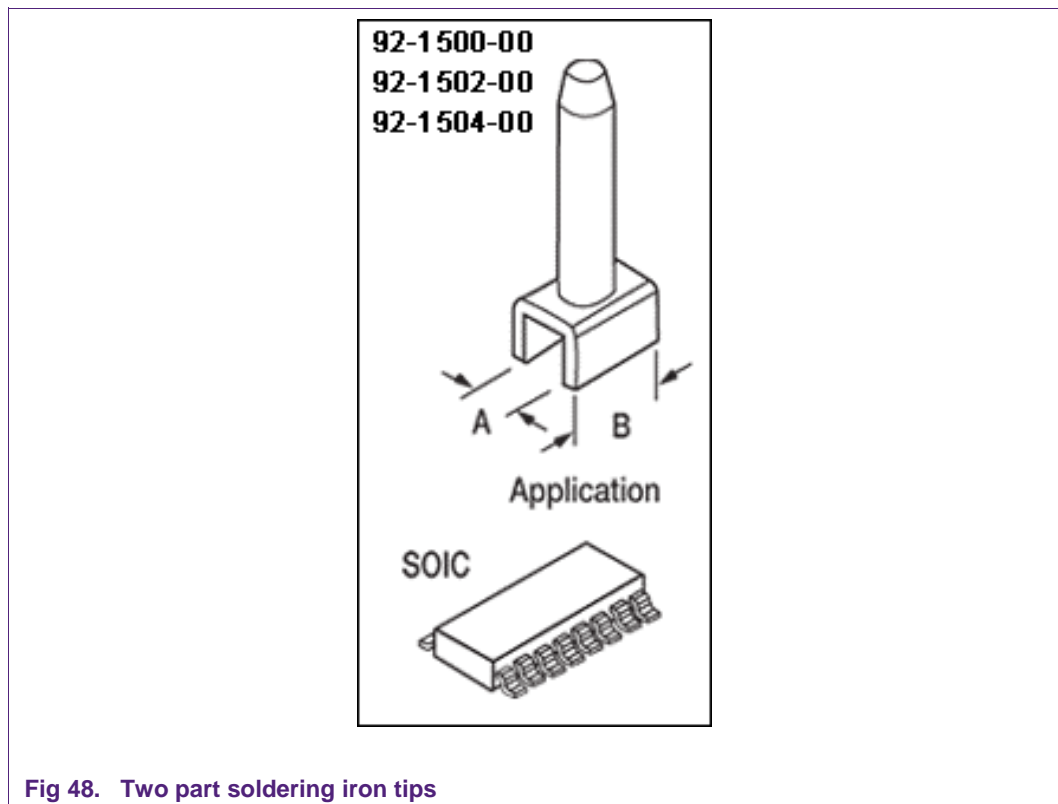

Fig 48. Two part soldering iron tips
- Remove the old package using a specially designed soldering iron tip. The tip may have two parts pressing down on the two leads at the same time, and leave room in the middle for a nozzle to lift the component. Examples of special tips for soldering irons are shown in Fig 48.